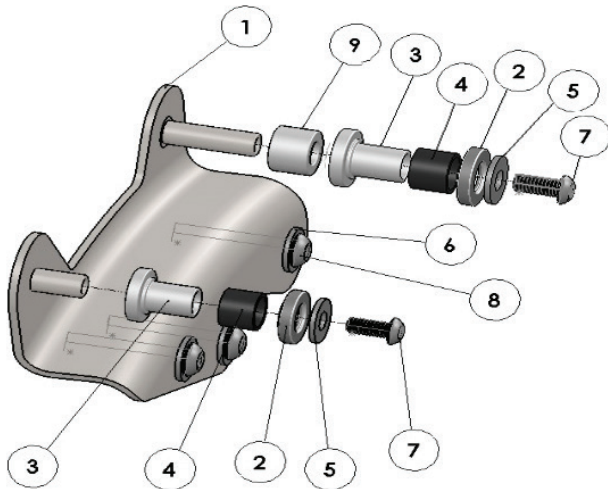

FIGURE 1
4. See Fig. 1: Slide the spacer (9) onto the long pin (1) of each of the docking plates. Install the bushing as noted in Fig. 1 (3,4 and 2) place washer (5) and insert smaller TORX® screw (7). Tighten until snug.
NOTE: Replacement bushing kits are available: PART #s 1510-0233 (chrome) and 1510-0234 (black); they consist of items 2, 3 and 4 as shown in Fig. 1. Each kit consists of two bushings.